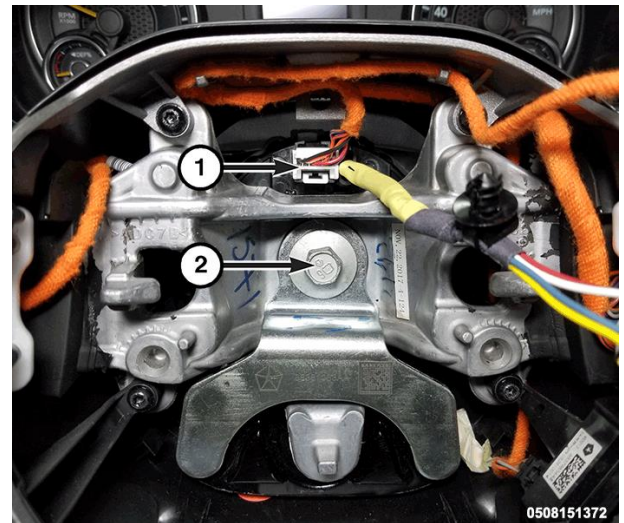

Figure 20 – Steering Wheel Wire Harness Connectors
14. Disconnect the steering wheel wire harness connectors (1) (Figure 20).
16. Remove and **DISCARD** the steering wheel bolt (2) and retain the damper if equipped (Figure 20).
12. If equipped, position the damper to the steering wheel, then install a **NEW** steering wheel bolt and tighten the nut to 61 N·m (45 ft. lbs.) (Figure 20).